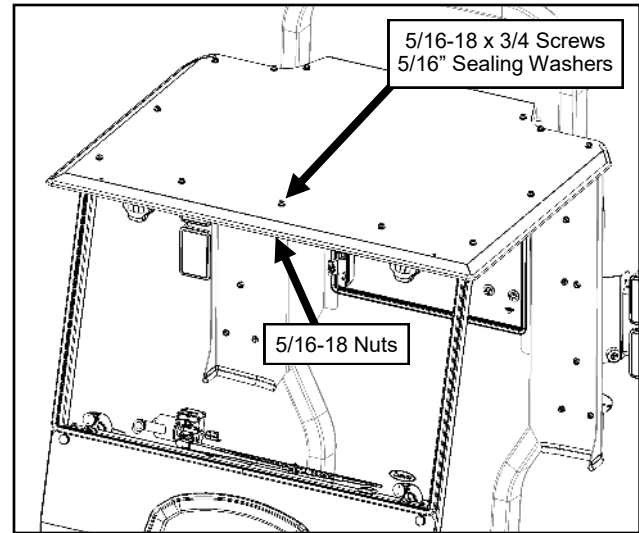

Fig. 10.2 (Loosely Secure Roof)
10.2 With a helper, set the roof on top of the A-pillars and rear legs. See Figure 10.2. Loosely secure with bolts and nuts at the rear legs, and sealing washers on all the bolts through the top of the roof. The A-pillars and rear legs should be loose enough to move into place on the roof.